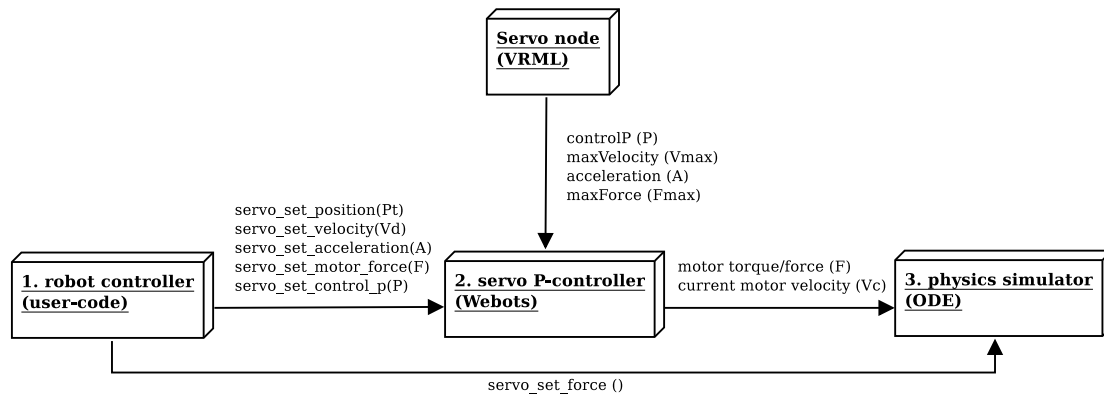

Figure 3.35: Servo control
In Webots, position control is carried out in three stages, as depicted in figure 3.35. The first stage is performed by the user-specified controller (1) that decides which position, velocity, acceleration and motor force must be used. The second stage is performed by the servo P-controller (2) that computes the current velocity of the servo V_c . Finally, the third stage (3) is carried out by the physics simulator (ODE joint motors).